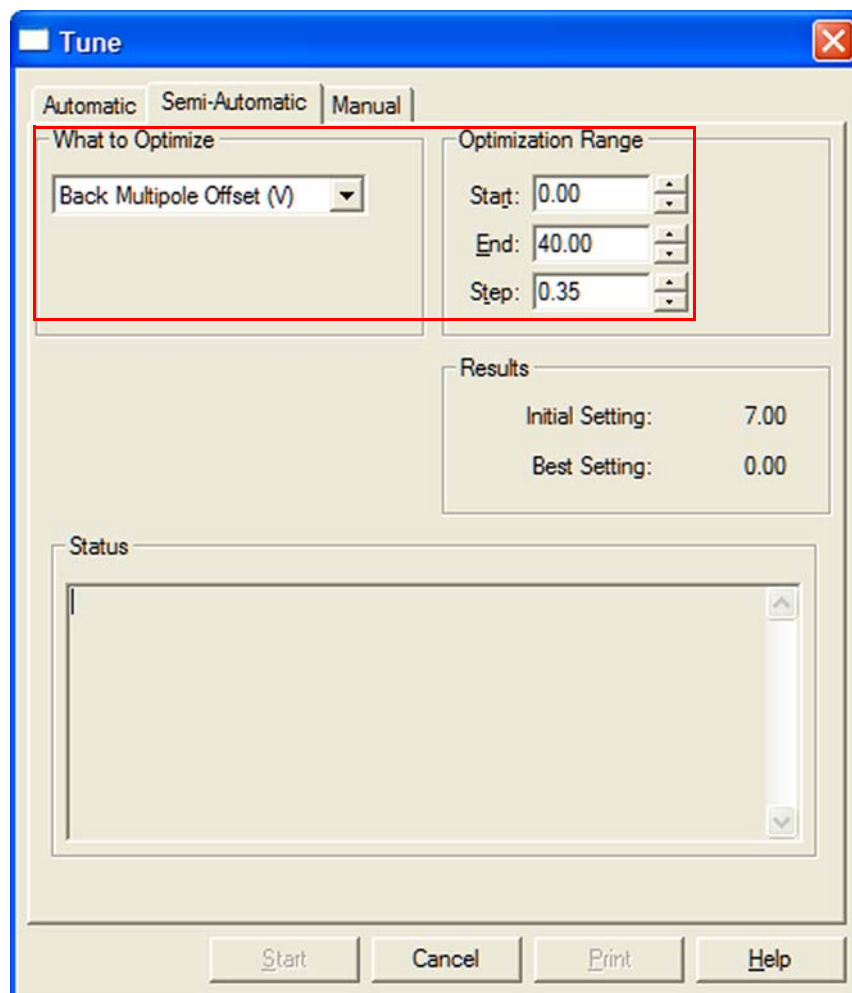

Figure 7-19. Semi-automatic tune of the Back Multipole Offset DC voltage
4. Open the Tune dialog box and perform a semi-automatic tune of the Back Multipole Offset with the settings shown in Figure 7-19 on page 7-22 (Start 0, End 40, Step 0.35).